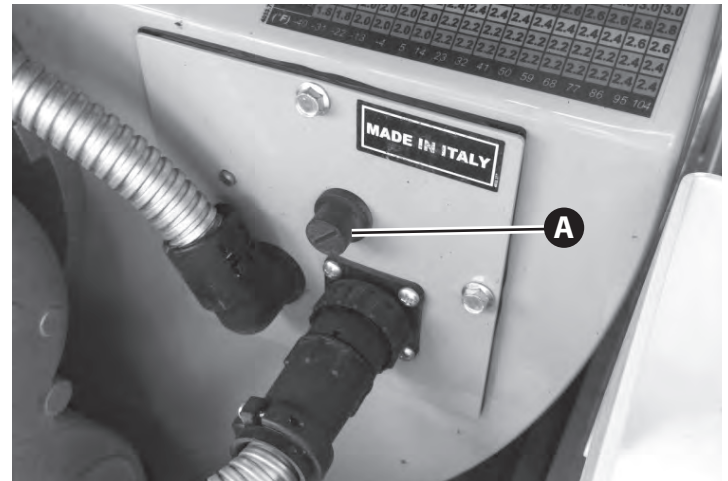

Figure 4.26
3. Reset the heater unit. Unscrew the plastic cover (A, Figure 4.26) protecting the reset button on the back of the heater unit. Press and hold the reset button for about 5 seconds. Re-install the protective cover.